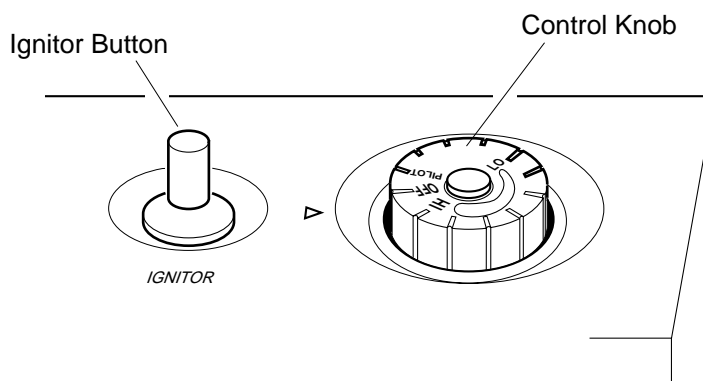

Figure 16 - Control Knob In The OFF Position
4. Wait five (5) minutes to clear out any gas. Then smell for gas, including near the floor. If you smell gas, STOP! Follow “B” in the safety information at the top of page 17. If you don’t smell gas, go to the next step.
5. Turn control knob counterclockwise  to the PILOT position. Press in control knob for five (5) seconds (see Figure 16).